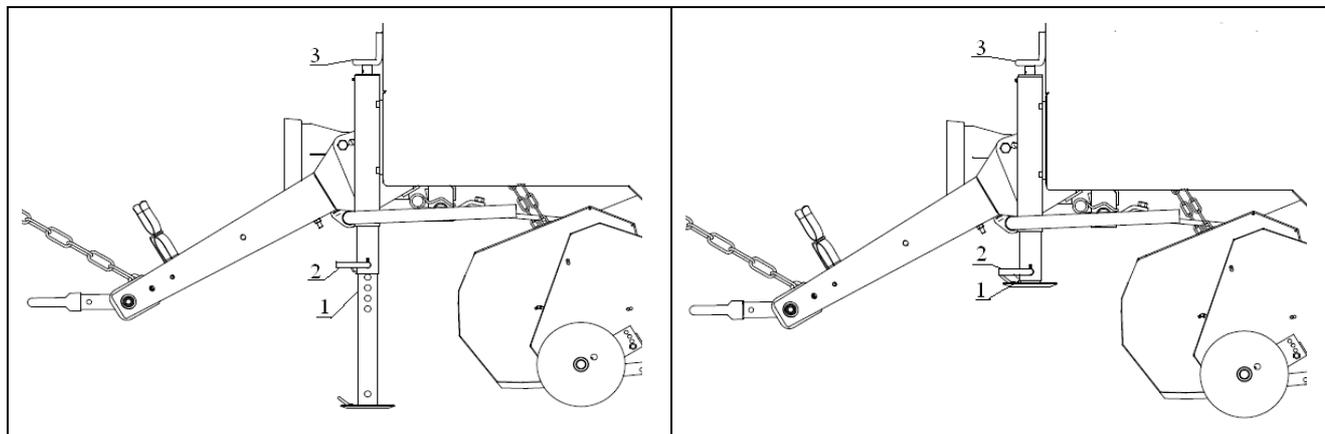

FIG. 40 SUPPORT IN PARKING POSITION
must be lowered (or raised) by rotating the crank (3) of the support (1) (see Fig. 40). After attaching the Baler to the tractor, the drawbar support should be set to transport position (Fig. 41). To do so, the support should be raised a little by rotating the crank in order to relieve it and then remove the pin and bolt (2). Insert the lower part of the support (1) into the upper part until the openings are aligned, and then, in this upper position, insert the bolt into the aligned opening and necessarily secure it with a pin.